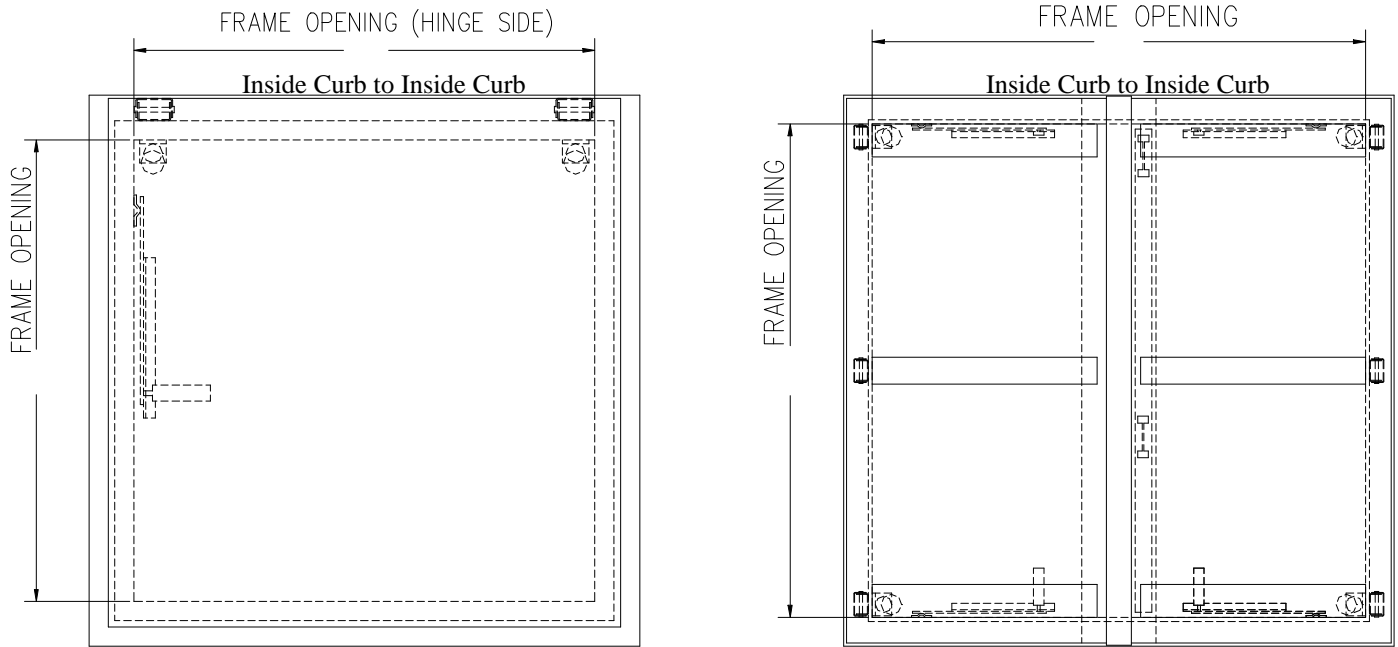

FIG. 1
5. Length and width of frame opening (fig. 1) note hinge side if unit is not square: \_\_\_\_\_